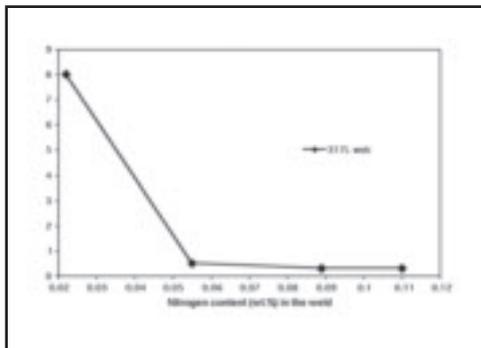

Fig. 7 — Effect of nitrogen additions on the Ferrite Number (FN) of 317L welds.
can be indexed satisfactorily for an austenite phase. However, a small amount of  $\delta$  ferrite, as revealed by the presence of (110) peak in the case of the 317L weld obtained without  $N_2$  in the shielding gas. Upon the addition of nitrogen, this peak corresponding to  $\delta$  ferrite disappeared. Microscopic and ferrospectroscopic studies further confirmed the X-ray diffraction data. The former showed ferrite in the dendrites with vermicular morphology (Fig. 6A), and the latter measured a Ferrite Number (FN) of 8. With the addition of nitrogen, the ferrite in the dendrites disappeared (Fig. 6B), and the FN dropped to 0.3. This effect of nitrogen on the FN is shown graphically in Fig. 7. A typical micrograph of 904L weld obtained with no  $N_2$  in the shielding gas is shown in Fig. 8 for comparison with 317L weld. According to the literature, Ni-rich phases (mostly austenite) exhibit color contrast varying from blue to green and Cr-rich phases exhibiting color contrast varying from reddish to yellow (Refs. 26, 27). Based on the above criteria, it can be said that 317L welds with nitrogen addition and all the 904L welds, obtained with and without  $N_2$  in the shielding gas, exhibit Ni-rich austenite dendrites (green in color) with dark contrast, and Cr-rich interdendritic (yellow in color) regions with bright/light contrast. Though the Cr-rich phases can be  $\delta$ -ferrite, the interdendritic regions may not completely belong to this phase, as XRD and Feritscope® data too did not show the corresponding amount of delta-ferrite.